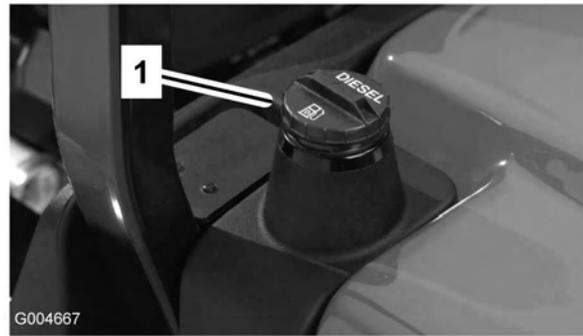

Figure 8
1. Remove the fuel tank cap (Figure 8).